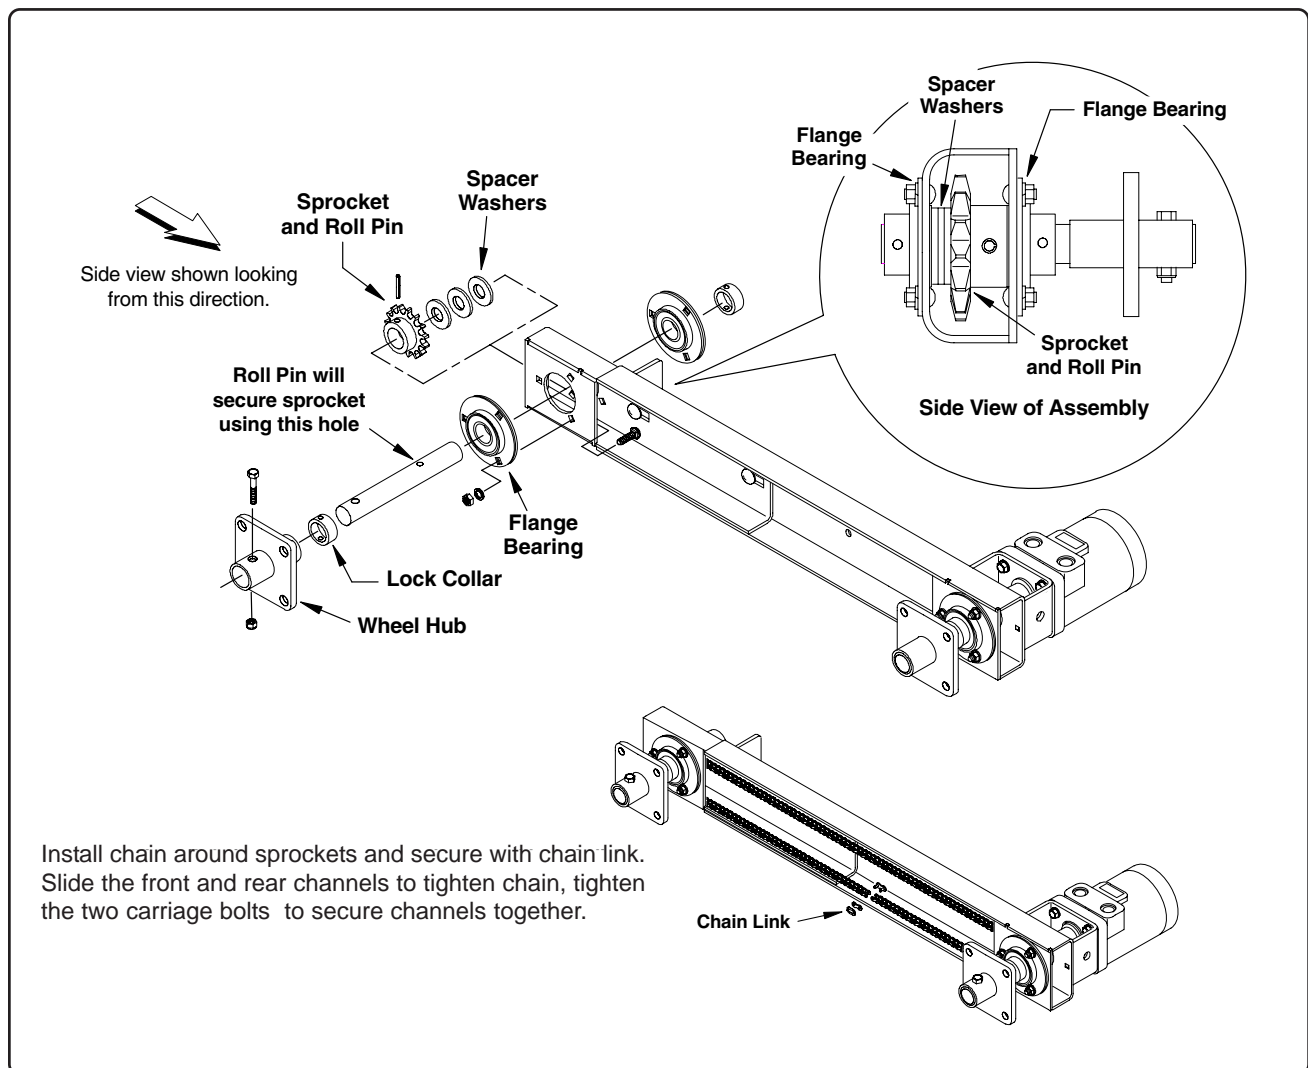

Fig. 3
7. Assemble the opposite end of the drive frame by attaching two flanged bearings to the front and rear side of the channel as shown in Fig. 3. Secure each flanged bearing using three 5/16" x 3/4" carriage bolts, lock washers and non-lock nuts. Do not tighten completely at this time.
As the shaft passes through the first bearing and into the channel, install three spacer washers and the sprocket (the spacers will be positioned at the rear of the drive shaft (See Fig. 3). Continue inserting the shaft through the second bearing.
9. Align the smaller hole on the drive shaft with the hole on the sprocket hub secure the sprocket using one (1) 5/16" x 1 3/4" roll pin (See Fig. 3). Tighten the hardware securing the flanged bearings.